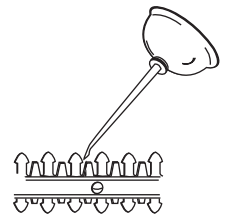

Fig. 7
1. Apply light machine oil along the edge of the top blade (Fig. 7).